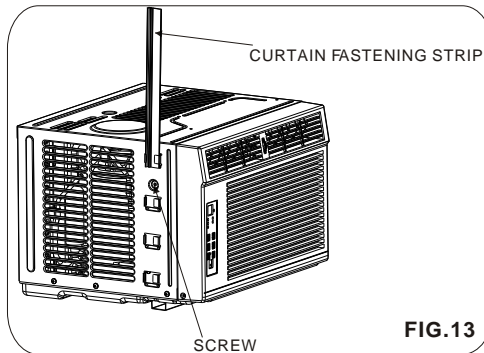

FIG.13
**Note:** Please note that there is a screw on the left and right side of the air conditioner covered by the curtain fastening strips. Before disassembling the unit please first take out the curtain fastening strips then loose the screw on each side, as shown in FIG.13.